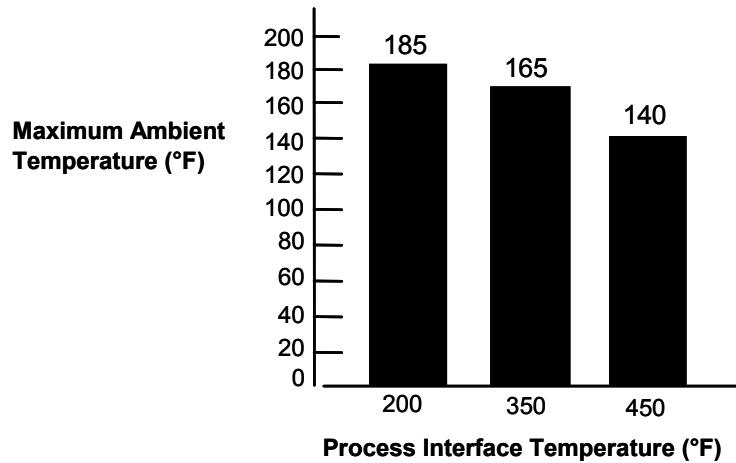

Figure 13—Ambient temperature and process interface chart.
* Ambient Temperature Limit is a function of Process Interface Temperature. (See Figure 13.)